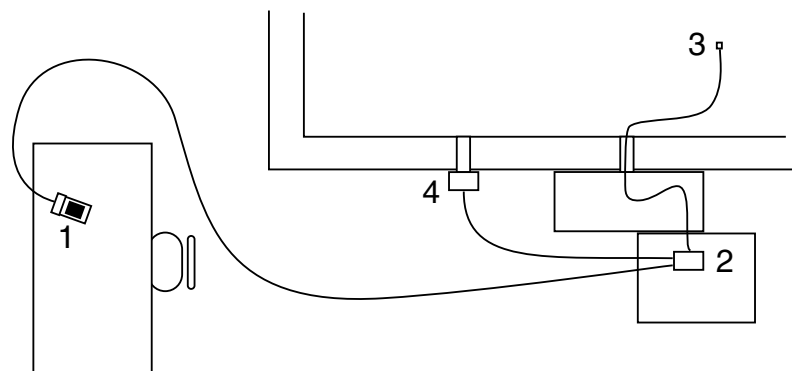

Figure 7.3. The intercom system. For explanations, see chapter 7.2.1.
Figure 7.3 illustrates the system. It is composed of a table station (1) and main station with power supply (2). The microphone (3) of the main station is inside the magnetically shielded room. The microphone cable runs to the main station via the feedthrough filter. The loudspeaker for main station is outside of the magnetically shielded room attached on a separate feedthrough tube on the magnetically shielded room wall (4).